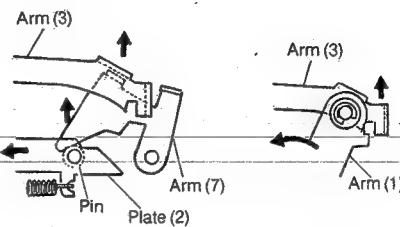

Fig. 14
4. Leftward movement of Plate (2) causes the pin calked by Plate (2) to push up Arm (7), so that the locking of Arm (3) with the notched part of Arm (1) is released (see Fig. 14).